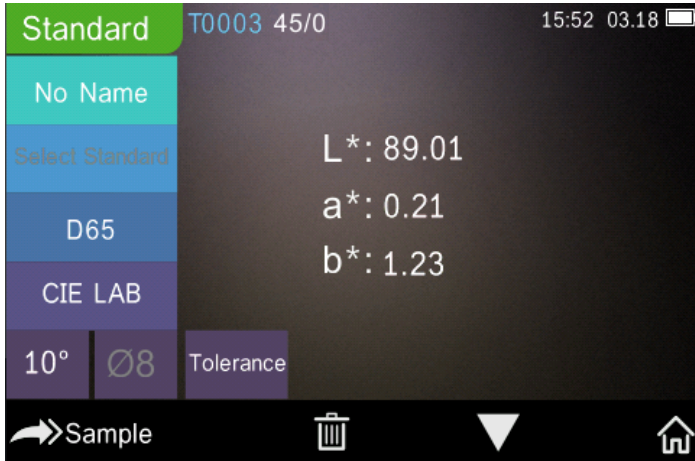
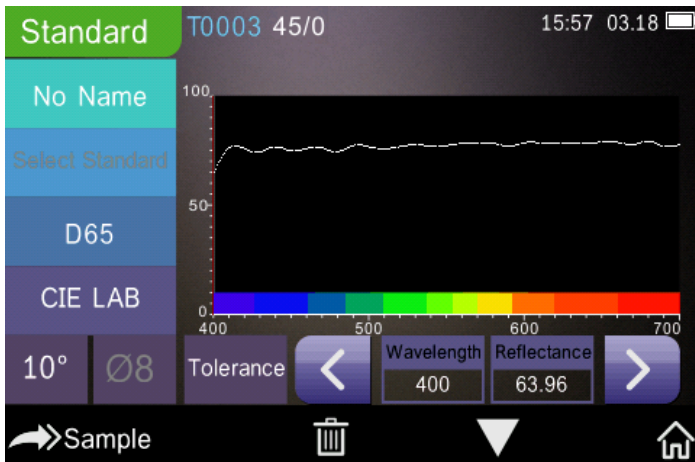
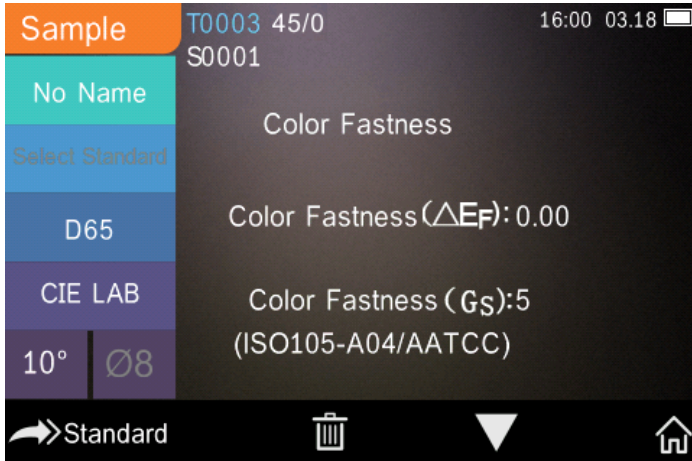
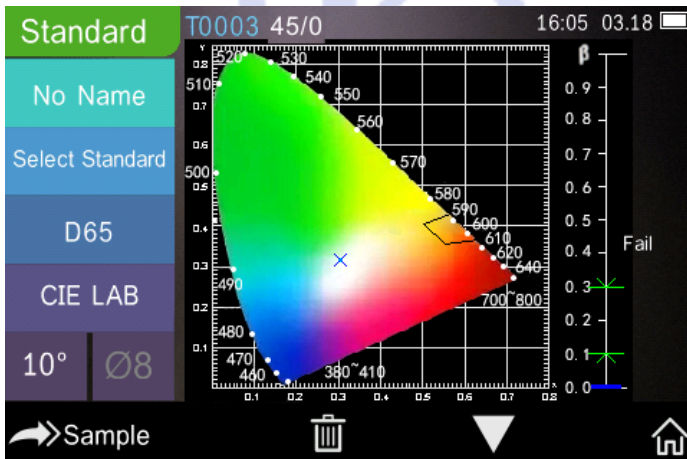

Figure 7 Chroma measurement
Figure 8A Spectral Reflectance
Figure 9 Color Index
Figure 8B Traffic sign information
As shown in Figure 7, it is working condition area at the top of measurement interface, displaying the status of measurement mode (SCI/SCE), Bluetooth and UV conditions. At the left side, it is shortcut display, it could switch different modes by pressing different icons. At the middle, it displays different chromatic data according to different setting of color formula. It is operation buttons area at the bottom, which could operate the data by pressing the different buttons. Figure 8A is spectral reflectance interface and Figure 9 is color index interface. Click “” to do quick switchable.
If the measurement of traffic signs in the system settings is off, the "Select Standard" in Figure 7 will be gray and there will be no response by clicking the shortcut key. If the measurement of traffic signs is on, the "Select Standard" in Figure 7 will display normally and clicking the shortcut key will enter the selection interface of traffic signs.
The spectral reflectance interface of Figure 8A will also become traffic sign information, as shown in Figure 8B.
16) β : the luminance factor of traffic signs; it will show “Pass” when the measured value is within the set range, otherwise, it shows “Failure”, as shown in Figure 8B.
Click “’ to turn the page, and check whether the chromate coordinate of the measured sample is within the polygon of the traffic sign standard and whether the β value is under the allowable range of the traffic sign standard as shown in Figure 8B. It will show “Pass” only if both items meet the requirements, otherwise it will display “Fail”.